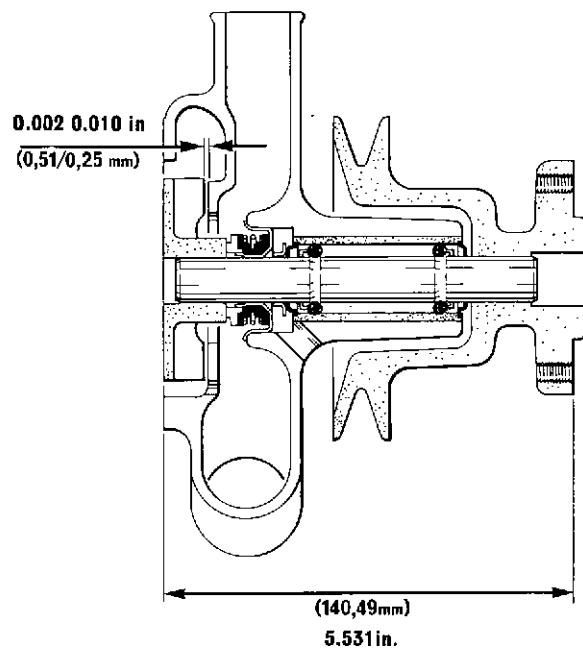

Fig. N6
7. With a support on the impeller end of the water pump shaft, press on water pump pulley until the front end of pulley aligns with front end of shaft. Where the fan mounting face is extended forward (see fig. N6), press the pulley on the water pump shaft until the fan mounting face is 140,49 mm (5,531 in) from the rear face of the pump body.